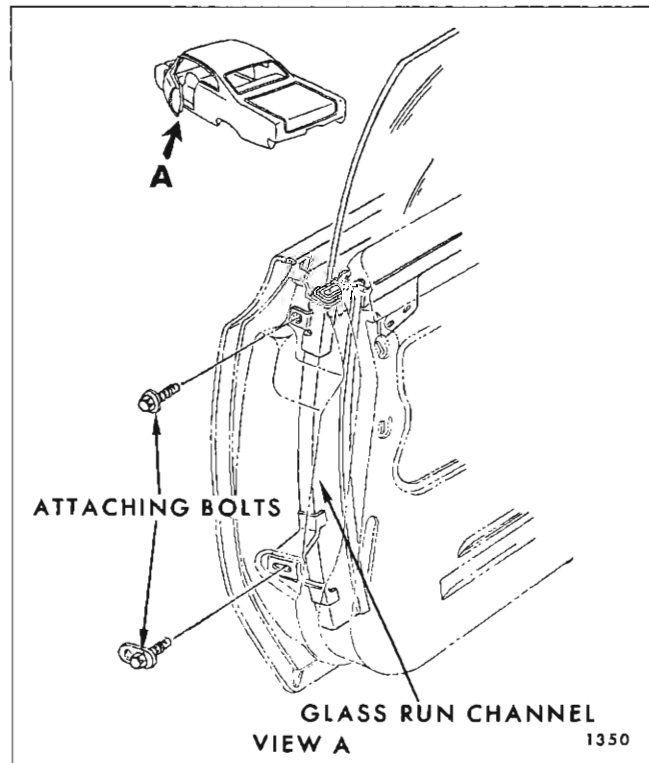

Fig. 2D35—Front Door Window Glass Run Channel
3. Slide run channel into door window glass run channel rear retainer and then install channel up into door upper frame in reverse order of removal (See Fig. 2D27).